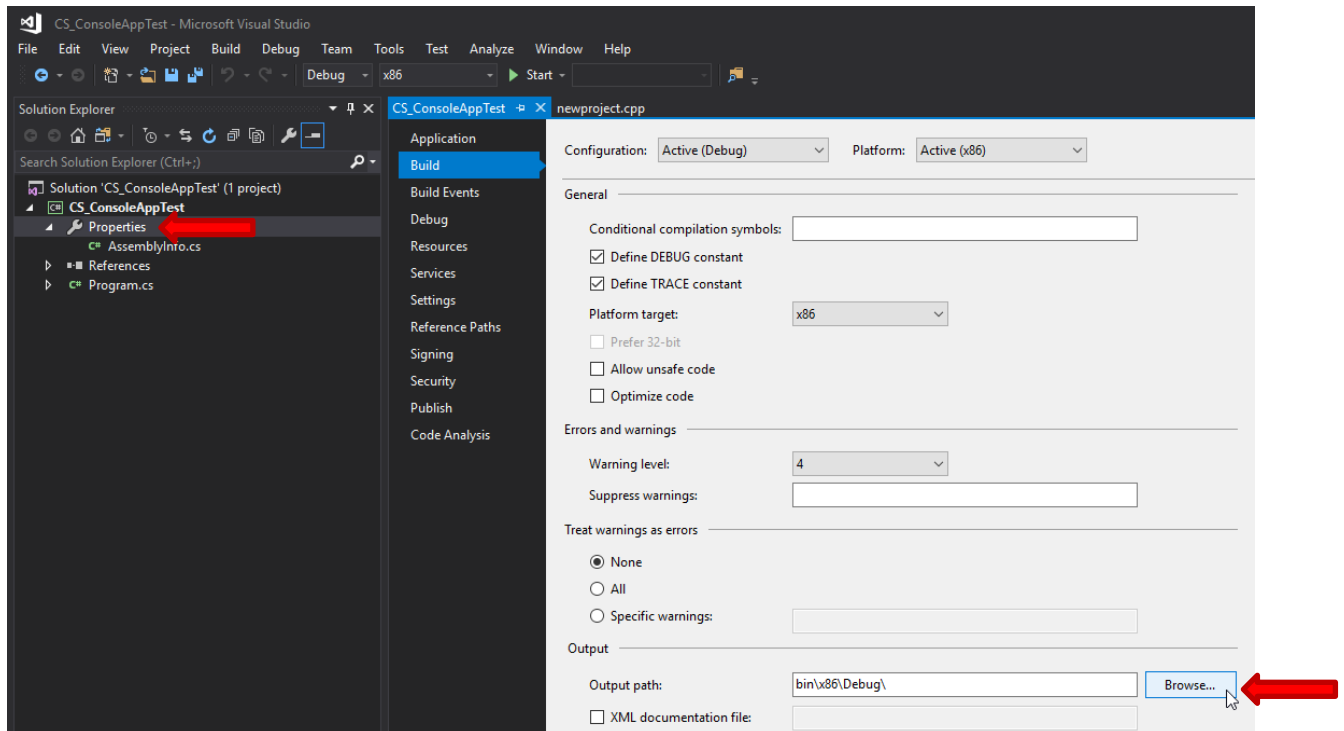

Figure 66 - VS2017 C# Build Directory
12) Build the solution by choosing Build – Rebuild Solution and navigate to the output folder, make sure that the dll files ended up in the output directory, if not, paste them in that location so that the code can find them when running, this is needed for debugging code to run as well. See Figure 66 - VS2017 C# Build Directory